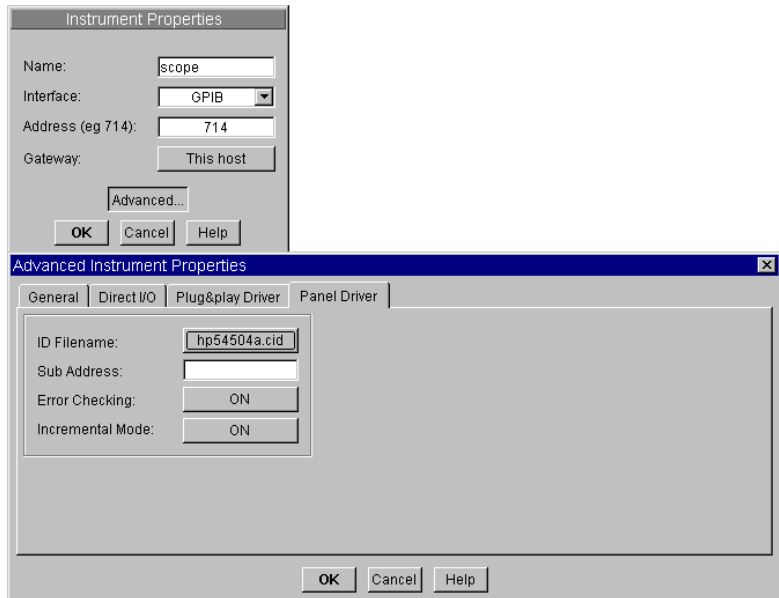

Figure 86 The Panel Driver Folder
- 4 Toggle Live Mode to OFF. Then click the Panel Driver folder, and the dialog box appears as shown in Figure 86.
- 6 Scroll down the list to highlight **hp54504a.cid**, then click **Open**. Figure 86 shows this instrument already selected. You can also double-click on a highlighted file to select it.